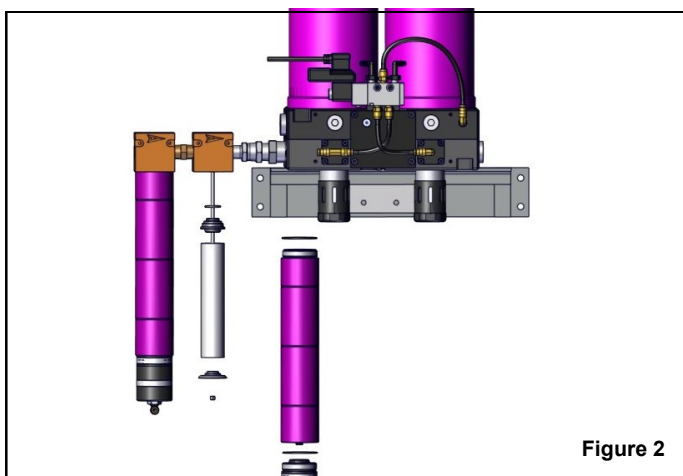

Figure 2
6. Remove bottom baffle, filter element, top adaptor, and O-ring. *Figure 2*